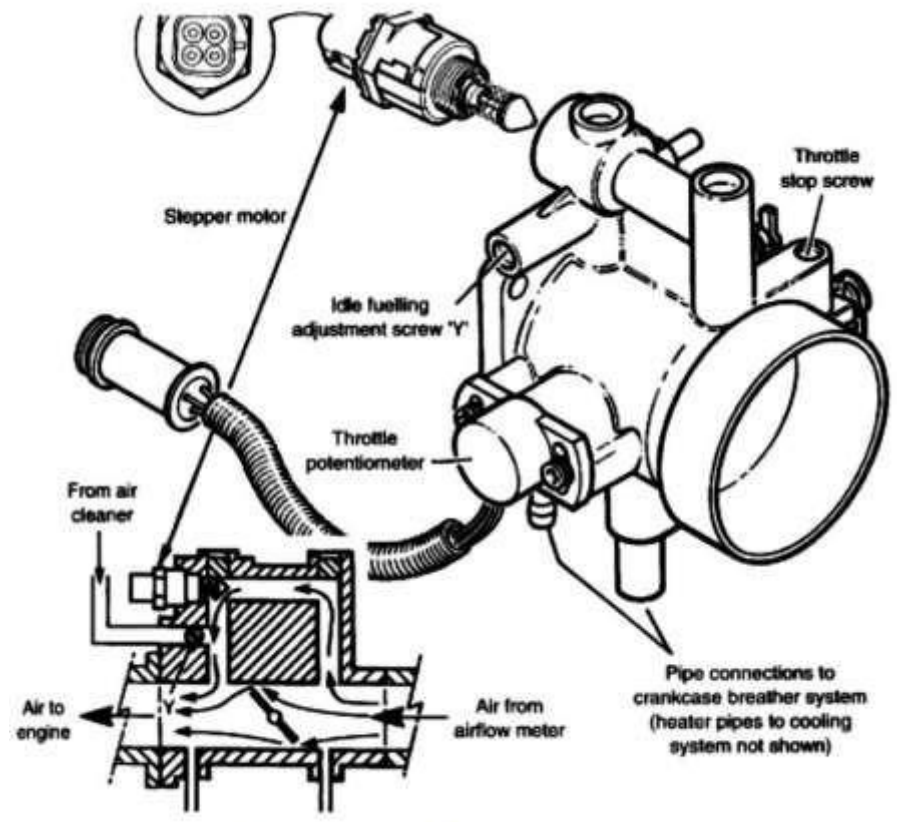

Fig. 6.12 A stepper motor operated air valve
- Two types of valve are used to provide a computer controlled idle air supply. One makes use of a **stepper motor**, as shown in Fig. 6.12, and the other uses a **solenoid operated valve** as shown in Fig. 6.15.